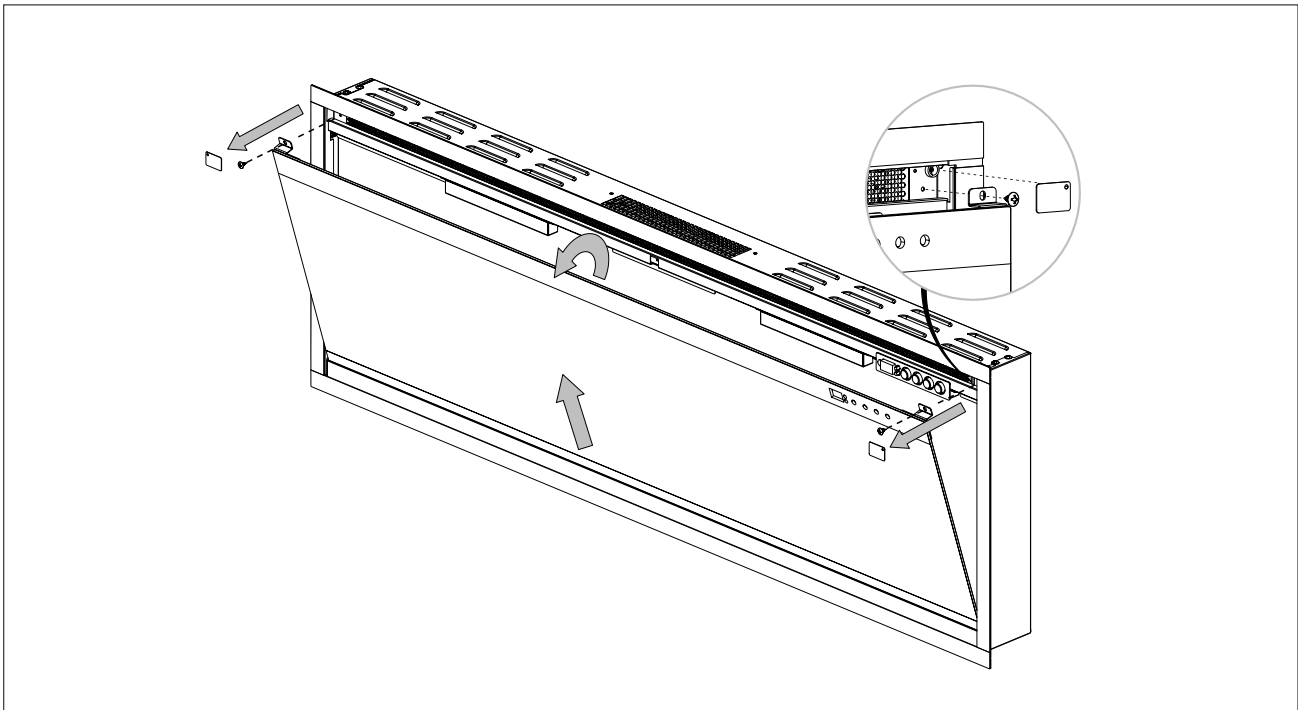

Fig. 13
1. To remove the front glass, remove the magnetic covers covering the securing screws for the front glass. (The magnetic covers are included in hardware bag when first installing the fireplace) **(Fig 13)**